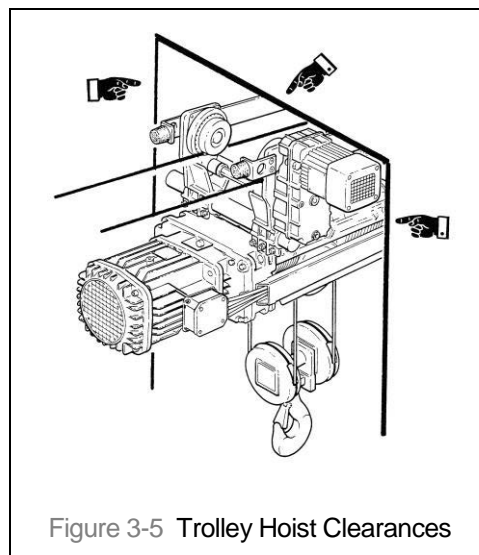

Figure 3-5 Trolley Hoist Clearances
- 3.3.2 Ensure that there is adequate vertical and horizontal clearance along the entire range of the trolley hoist's motion (see Figure 3-5).